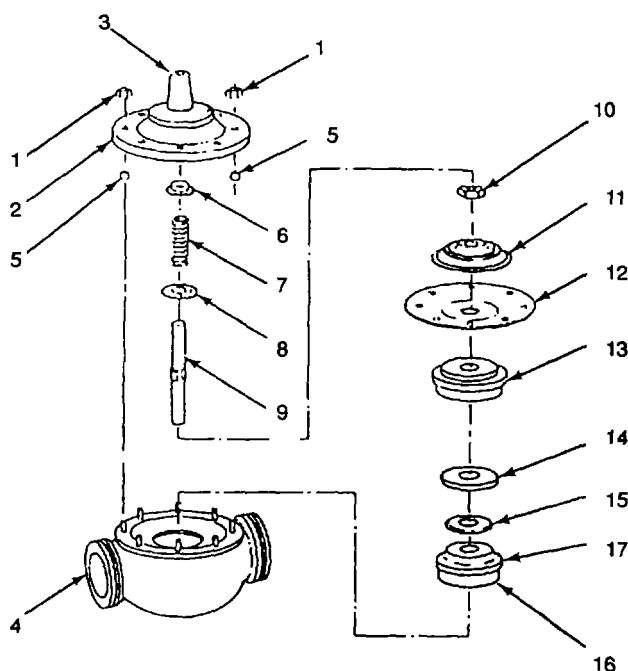

Figure 5-3. Main Valve Assembly
(3) Lift main valve assembly (5) from the skid (6).
(4) Remove nuts (7), flat washers (8), and studs (4).
(5) Remove flat washers (9) and nuts (10) from studs (4).
b. DISASSEMBLE (Figure 5-3).
- (6) Secure lower end of valve stem (9) (on diaphragm and disc assembly) in vice with soft jaws.
- (7) Examine threads above stem nut (10) for signs of corrosion or mineral deposits. If needed, clean threads with wire brush before removing nut.
- (8) Remove stem nut (10).
- (9) Remove diaphragm washer (11), diaphragm (12), disc retainer (13), and disc (14) from valve stem (9).
- (10) Pry disc (14) from disc retainer (13). Remove disc (14).
c. **INSPECT (Figure 5-3).**
- (1) Inspect threads for damage. If threads are damaged, replace main valve body (4).
- (2) Inspect seating surface on valve body. If worn, replace valve body (4).
- (3) Inspect valve stem (9) for corrosion and scale. If needed, use crocus cloth moistened with water to clean valve stem.
e. ASSEMBLE (Figure 5-3).
- (1) Install disc (14) into disc retainer (13).
- (2) Install disc (14), disc retainer (13), diaphragm (12), and diaphragm washer (11) onto valve stem (9).